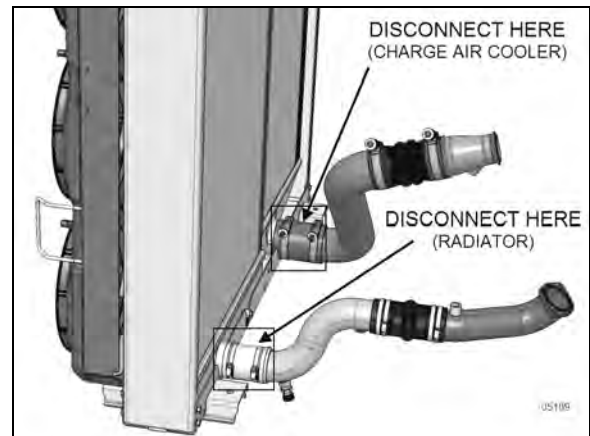

FIGURE 32: RADIATOR & CAC LOWER CONNECTION
- Disconnect the radiator lower pipe directly at the radiator outlet (Figure 32).